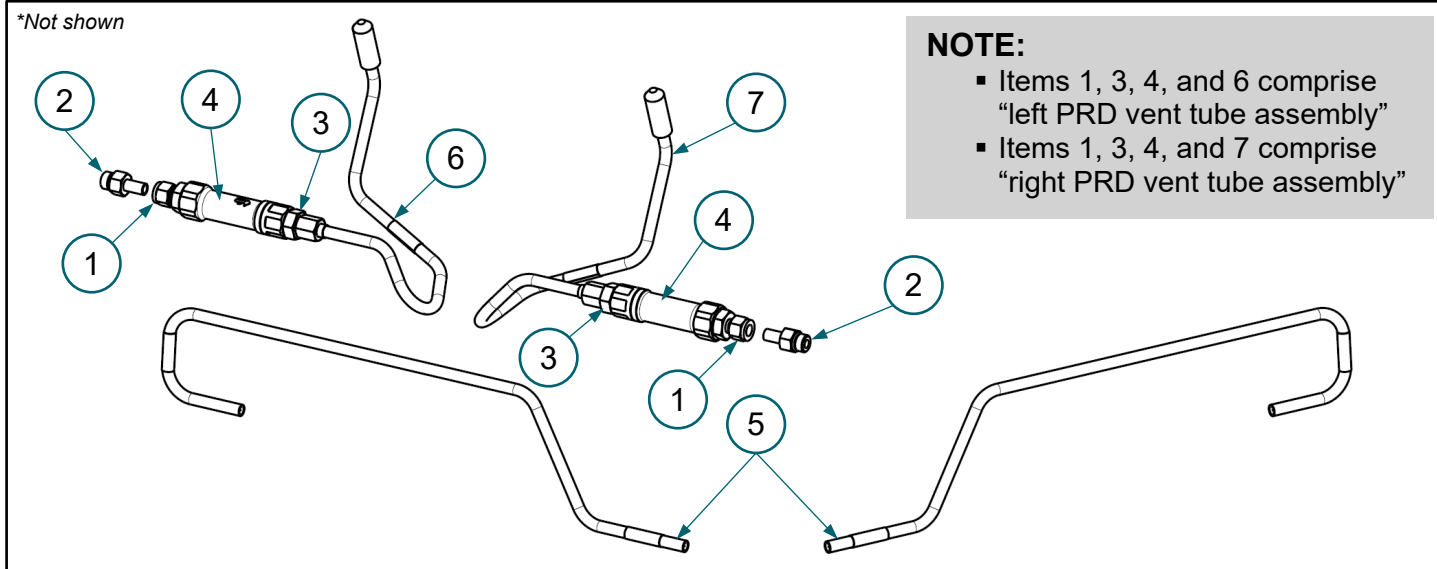

FIGURE 1. Parts List — Retrofit Kit, Beta Valve PRD, Gen 3 RM, Hexagon Agility® p/n 20535030
1. Verify contents of Retrofit Kit, Beta Valve PRD, Gen 3 RM, Hexagon Agility® p/n 20535030 is present in the correct quantities. **FIGURE 1**